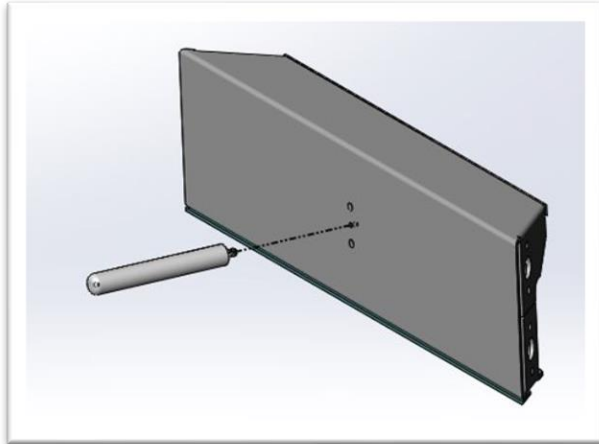

Figure 4. Installation of the spacer on the Noise Abatement Panel, Back
- 4 Screw the spacer on the Noise Abatement System, as shown in figure 4: